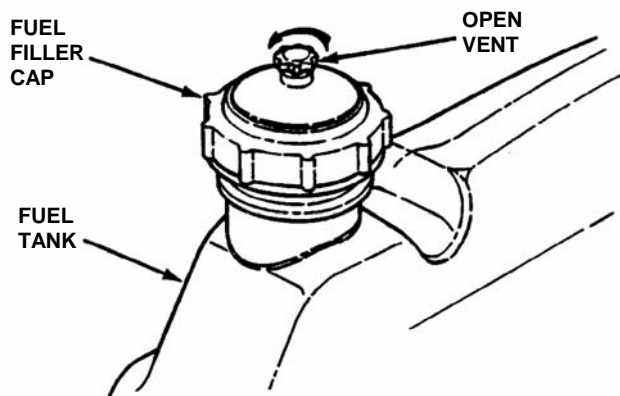

FIGURE 2.2
**2.1.7.** Add fuel to tank after pushing the Rear Engine Rider outside where fumes can dissipate. Make sure fuel filler cap is tight and vent is open after refueling. Refer to engine owner's manual for fuel specifications. See Figure 2.2.
4. Open vent on fuel filler cap by turning counterclockwise. **IMPORTANT:** Failure to open vent on the fuel filler cap can cause engine to stall. See Figure 2.2.
4. Open vent on fuel filler cap by turning counterclockwise. NOTE: Failure to open vent on the fuel filler cap can cause engine to stall. See Figure 2.2.